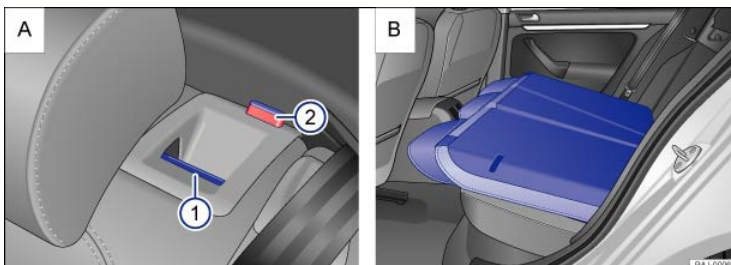

Fig. 81 : Rear seat backrest: Release button ① and red mark on the indicator ②. : Seat backrest folded forward.
- Pull the release button ⇒ *Fig. 81 ①* forward to release the rear seat backrest. The rear seat backrest is unlocked if the red mark ⇒ *Fig. 81 ②* can be seen on the indicator.
- The red mark on the indicator ⇒ *Fig. 81 ②* should no longer be visible.
- If the red mark on the indicator ⇒ *Fig. 81 ②* is visible, this indicates that the backrest is not latched into place. Always check to make sure that the red mark is not visible whenever the rear seat backrest is in the upright position.